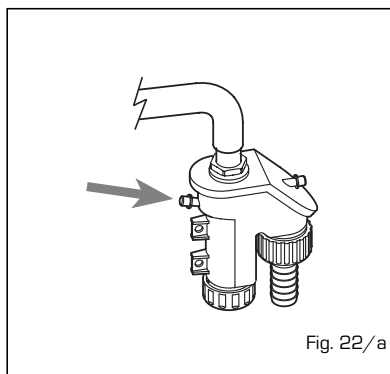

Fig. 22/a
During maintenance operations the authorised technician must check that the syphoned drip is full of water (this check is of importance particularly when the generator has been out of use for a long period of time). Filling is done via the special opening (fig. 22/a).
4.10 CLEANING THE C.H. WATER FILTER "AQUA GUARD" (fig. 22/b)